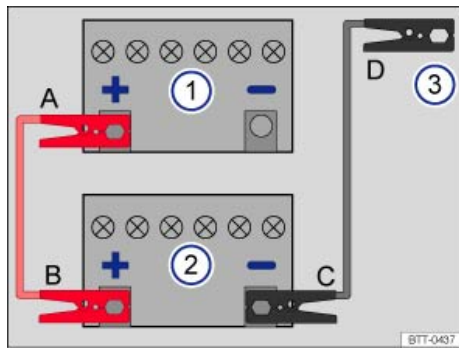

Fig. 201 Diagram for attaching the jumper cables: Dead battery 1 and booster battery 2.
The procedure for attaching and for removing the jumper cables is described below. Perform each of the following steps only in the order described, which follow the letters shown in the illustration ⇒ fig. 201 A – B – C – D.
3. Attach one end of the *red* jumper cable to the **positive terminal (+)** of the dead battery: (1) ⇒ ⚠.
4. Attach the other end of the *red* jumper cable to the **positive terminal (+)** of the good battery (booster battery): (2).
5. Attach one end of the *black* jumper cable to the negative jump-start terminal ⇒ *Jump-start terminal*, or if that is not available, to the **negative terminal (-)** of the battery in the vehicle providing assistance (2) ⇒ fig. 201.
6. Attach the other end of the *black* jumper cable (3) to the negative jump-start terminal ⇒ *Jump-start terminal*, or if that is not available, **a bare metal part of the vehicle with the dead battery**. This part should be connected directly to the engine block. You may also attach the cable to the engine block itself or to the towing eye installed on the front of the vehicle ⇒ *Towing*. Attach the clamp to a point that is as far away as possible from the dead battery (1) ⇒ ⚠.